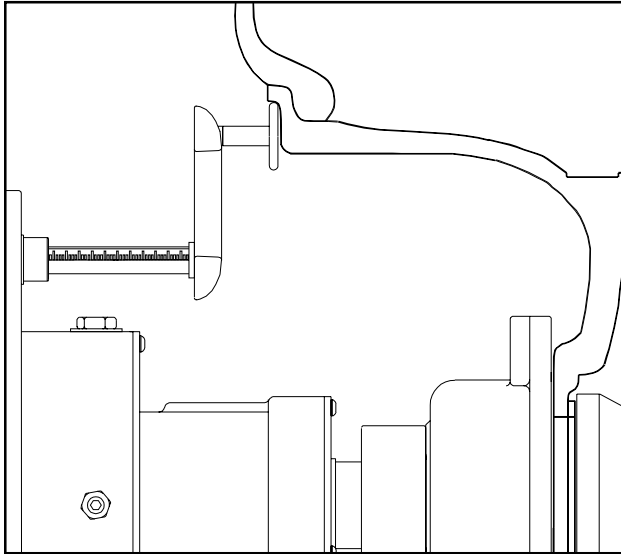

Figure 8
2. Extend the SAPE arm and touch the position of the left weight position. See *Figure 8*. The display will read "d - l" on its left window and the distance reading on its right window. Return the SAPE to the rest position.
The Offset Spacer was designed to provide clearance for the pin on these wheels, with a tapered inner lip to allow the clearance needed for the outside mounted cone to fit inside of it without binding. Mount these wheels as in *Figure 8*.